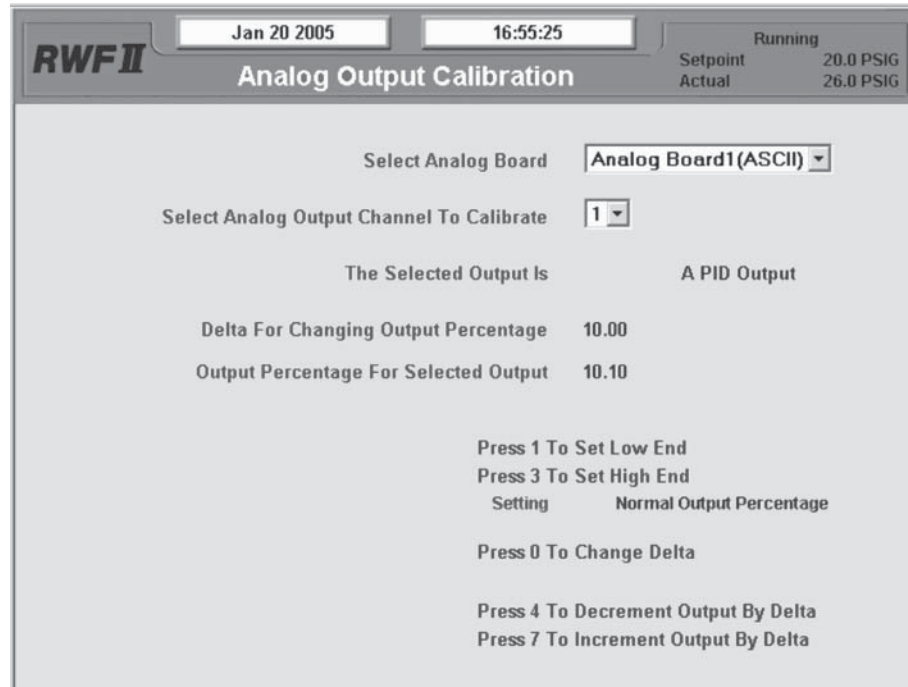

Figure 14
- Set operating session to Session 2 and go to the screen shown in Figure 14 by pressing [Menu] >[Calibration] > [Analog Outputs] > [Output Calibration].